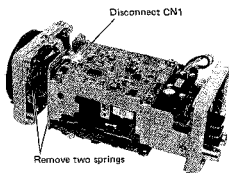

Fig. 3-2
- Disconnect CN1 from Drive board and remove two springs. (Fig. 3-2)